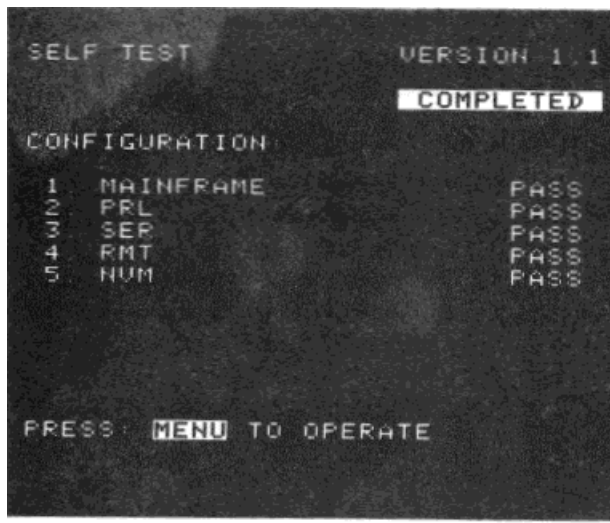

Figure 5-3. 318 Successful Power-up diagnostics display.
2. Approximately seven seconds after power is turned on, the screen display is initialized. Check to ensure that FAIL is not displayed in any of the test fields. Refer to Figure 5-3.